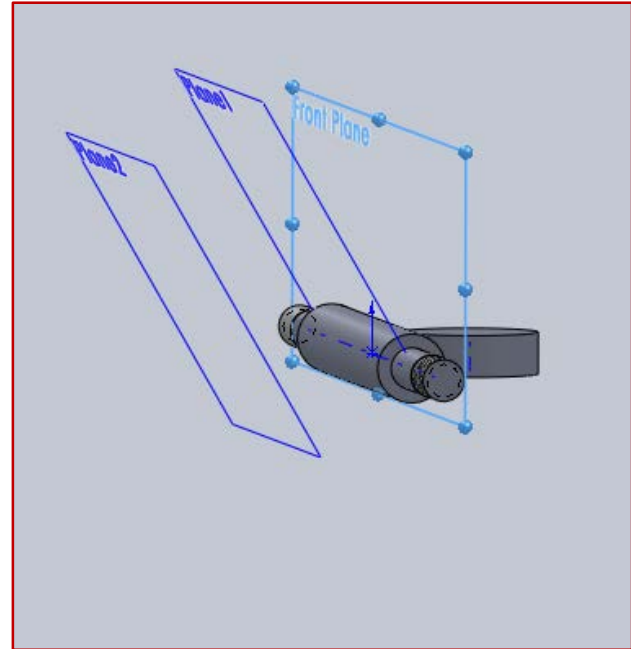

Figure 7.4 – Front, Rotated and Parallel Planes
- ✓ The new plane created is rotated from the **Front Plane** 32 degrees using the shaft axis for rotation. See Figure 7.4.